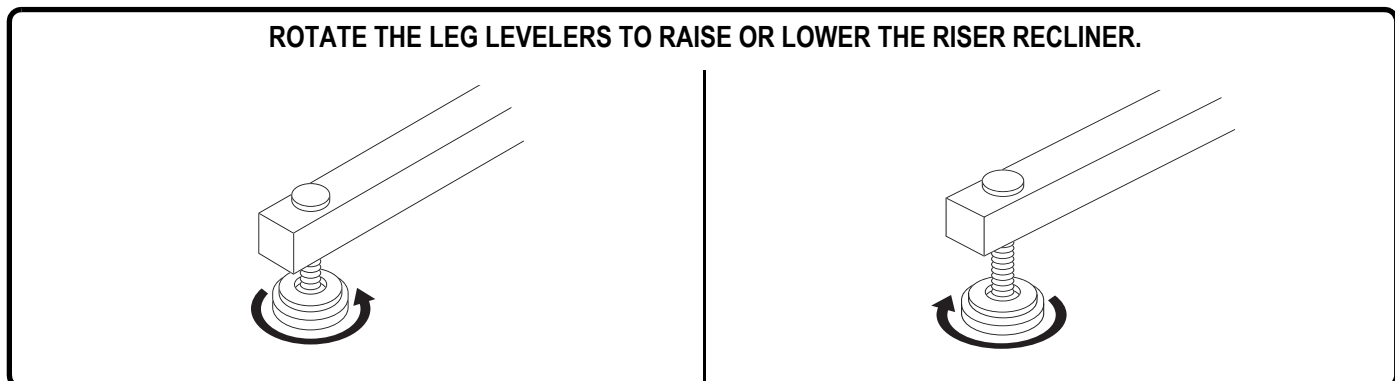

Figure 3.3 Leg Levelers
**Leg Levelers:** Manually rotate up or down in order to stabilise the recliner before use (**Fig. 3.3**).
2. Adjust the leg levelers to stabilise the riser recliner (**Fig. 3.3**).